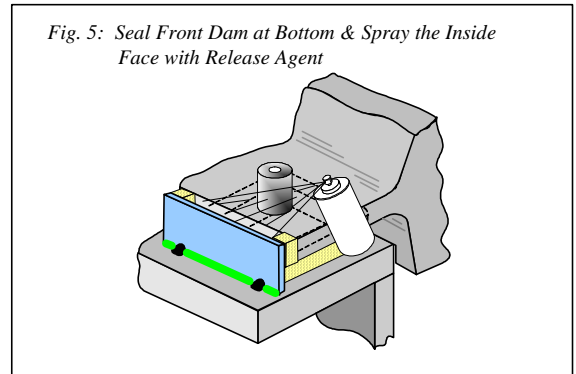

Fig. 5: Seal Front Dam at Bottom & Spray the Inside Face with Release Agent
- 8) Spray the inside of the front metal dam with Release Agent so that it can easily be removed after the CHOCKFAST hardens. See Fig. 5.